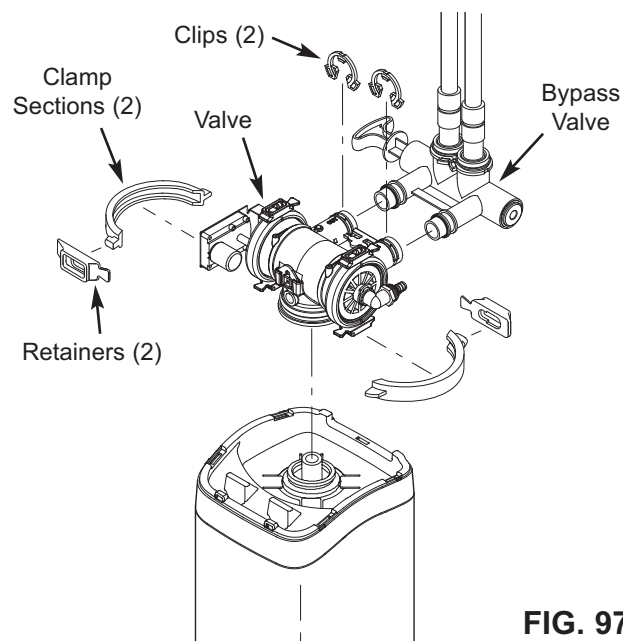

FIG. 97
6. Remove the clamp retainers (2) and clamp sections (2) that hold the valve to the tank (See Figure 97). Lift upward to remove the valve.